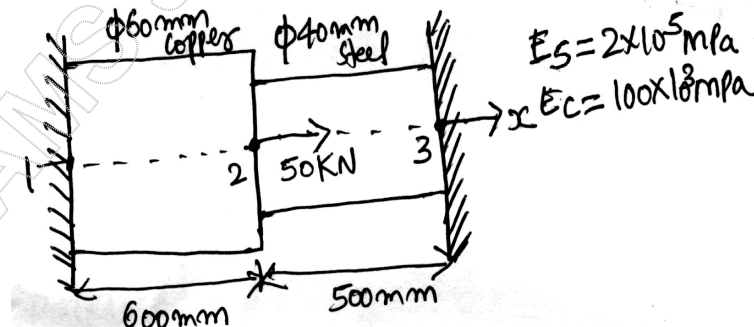

Fig Q3(b)
- b. A compound bar is subjected to a load of 50kN as shown in Fig Q3(b). Determine the following :